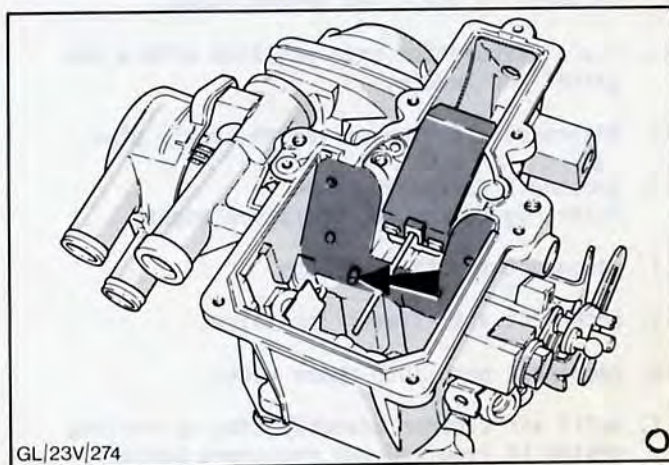

Fig.50. Accelerator pump outlet.
5. Remove accelerator pump outlet one-way valve ball and weight. To remove carefully invert carburettor main body to allow ball and weight to drop out. Accelerator pump outlet shown in Fig.50.